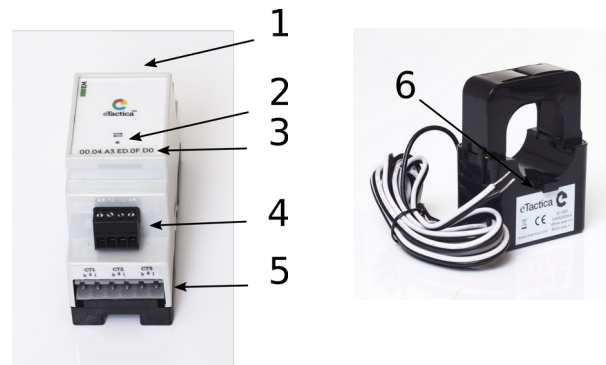

Figure 1: Power meter and current transformer
Modbus address	Default last byte of serial number, <a href="#">see pos 3 in Figure 1</a> (Configurable)
- ▶ Plug the terminal plug into the Power Meter (See position 2 in Figure 1).
- ▶ Fasten the CTs to the conductors with cable ties by using the tabs on the CT (See position 6 in Figure 1).
- ▶ Connect the cable to the Power Meter (See position 4 in Figure 1).
A LED light (See position 2 in Figure 1) indicates the status of the device.